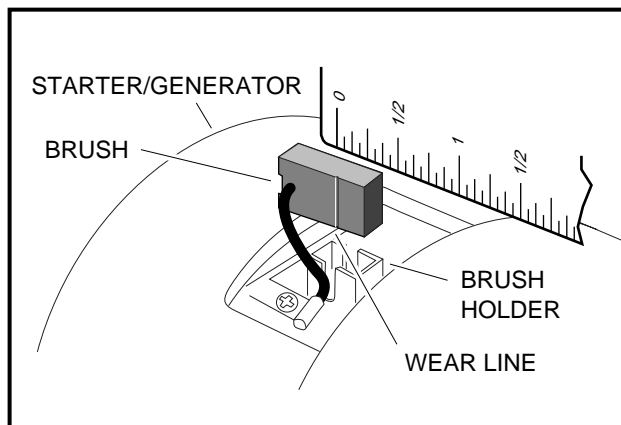

Figure 12-5 Inspect Brushes
2. Check the wear line on the side of the brush. If the end of the brush is within 1/16 of an inch (1.6 mm) of the wear line, replace all four brushes (Figure 12-5, Page 12-4).